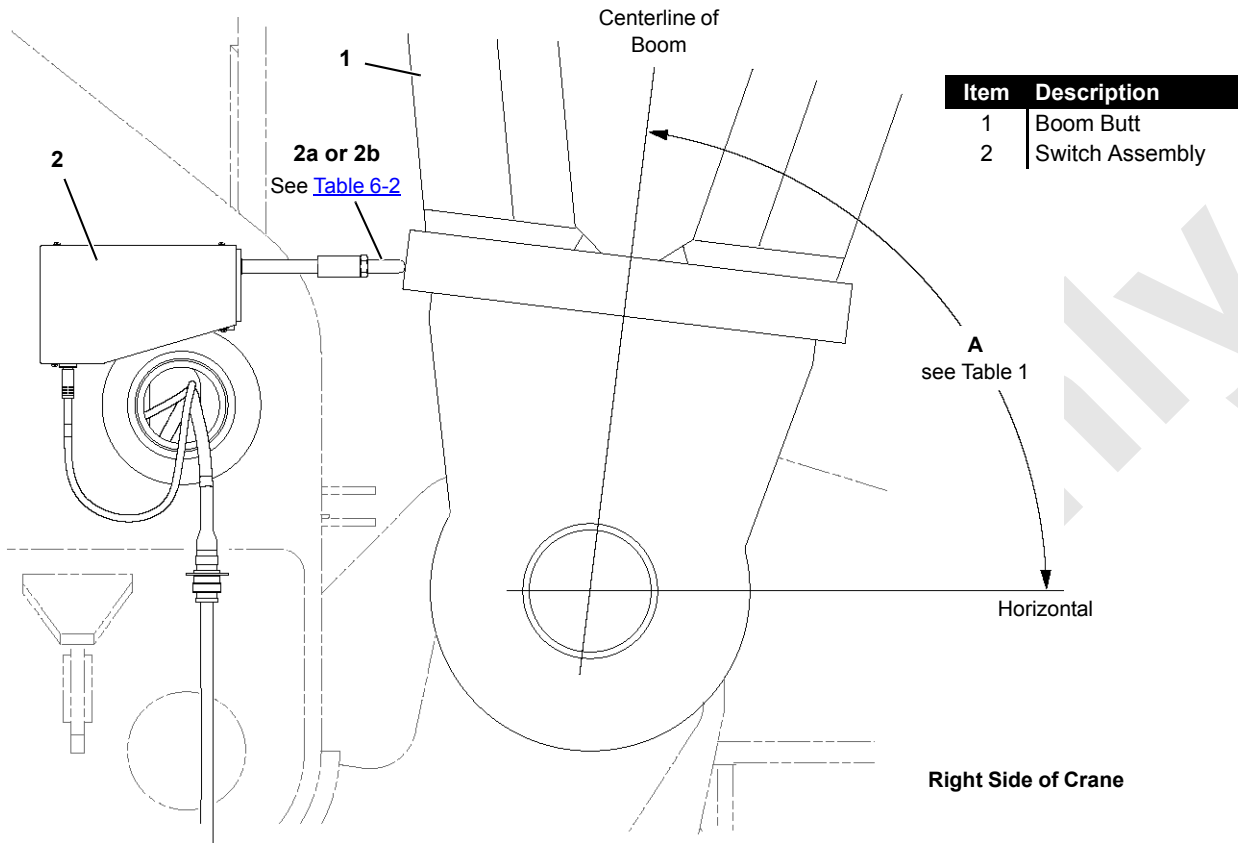
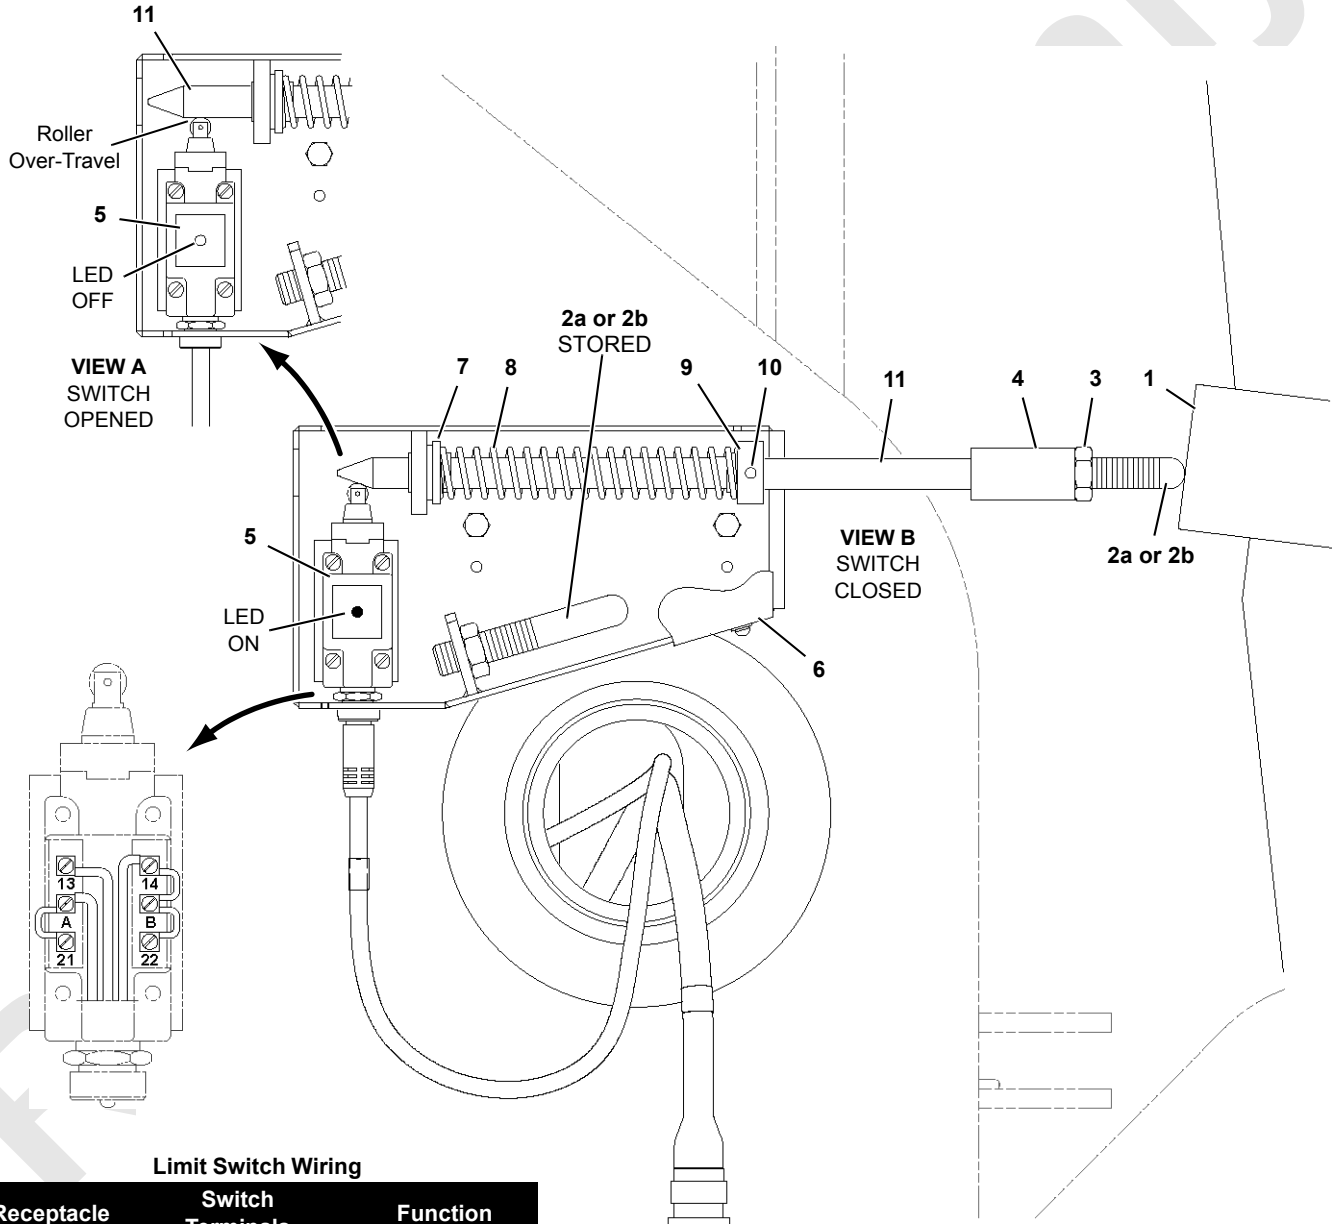

FIGURE 6-4
FIGURE 6-5
Boom stop limit switch (5, Figure 6-5) automatically stops the boom and applies the boom hoist brake when the boom is raised to **Angle A** (see Figure 6-4 and Table 6-1).
See Figure 6-5 for the following description.
Angle A (see Figure 6-4)	Attachment
2. Have an assistant push adjusting rod (2a or 2b Figure 6-5) in to trip the boom stop limit switch open.
- Raise the boom to specified **Angle A** (Figure 6-4) while monitoring the angle on the mechanical indicator or on the operating conditions screen of the front-console display.
See Figure 6-5 for the remaining steps.
See Figure 6-5, View B for the following procedure.